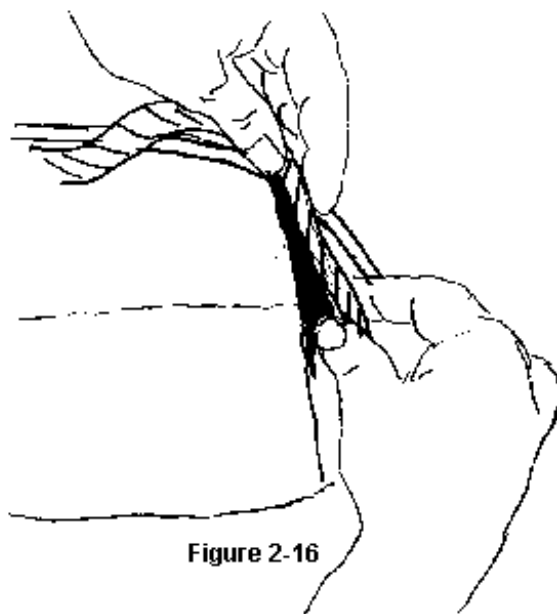

Figure 2-16
Step 21 Stow excess bridle under bridle retaining flap as shown in *Figure 2-16*.